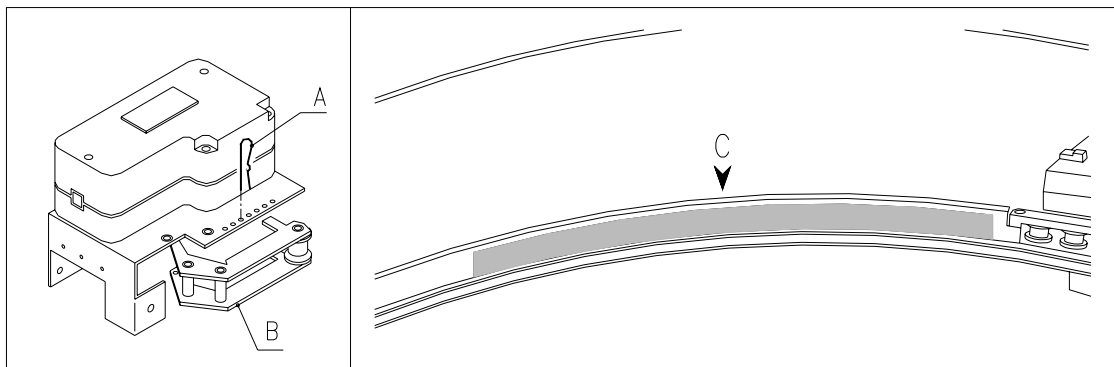

FIG. 16
8.7 ADJUSTING BELT TENSION FIG. 16